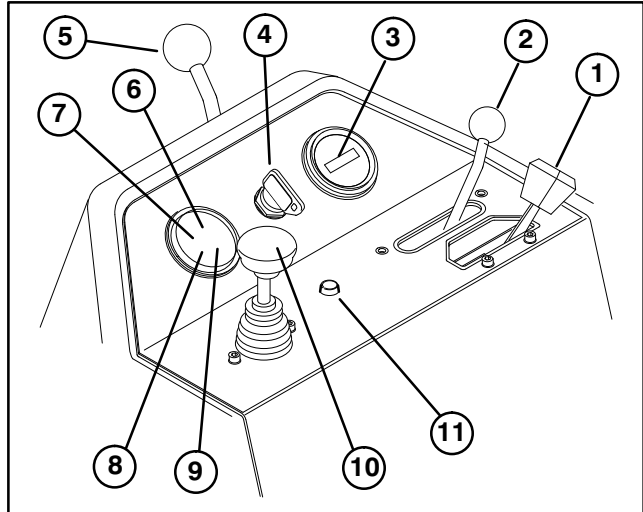

Figure 19
Throttle Control (Fig. 19) – The Throttle Control gives the operator the ability to control the speed of the engine. Moving the Throttle Control toward the “FAST” position increases engine RPM; moving Throttle Control toward “SLOW” will decrease engine RPM.
Functional Control Lever (Fig.19) – Provides two (2) traction selections, plus a “NEUTRAL” position. It is permissible to shift from mow to transport or transport to mow (not to neutral) while the Greensmaster 3200–D is in motion. No damage will result.
Hour Meter (Fig.19) – Indicates the total hours of machine operation. The hour meter starts to function whenever the key switch is rotated to “ON”.
Ignition Switch (Fig. 19) – Insert key into switch, turn clockwise as far as possible to “START” position to start engine. Release key as soon as engine starts; key will move to “ON” position. Turn key counter-clockwise to “OFF” position to stop engine.
Steering Arm Locking Lever (Fig.19) – Rotate lever rearward to loosen adjustment, raise or lower steering arm for operator comfort, then, rotate lever forward to tighten adjustment.
Water Temperature Light (Fig. 19) — Light glows and engine automatically shuts-down when engine coolant temperature gets too high.
High Temperature Override Button (Fig. 19) —If engine kills due to an over heat condition, press over ride button in and hold until machine can be moved to a safe location and allowed to cool down.
Glow Plug Indicator Light (Fig. 19) – When lit, indicates glow plugs are on.
Battery Warning Light (Fig. 19) – Light glows if battery charge is low.
Oil Pressure Light (Fig. 19) — Light glows if engine oil pressure drops below a safe level.
Raise / Lower – Mow Control (Fig 19) – Moving control forward, during operation, lowers the cutting units and starts the reels. Pull back on control to stop reels and raise cutting units. During operation reels can be stopped by pulling back on control momentarily and releasing. Restart reels by moving control forward.